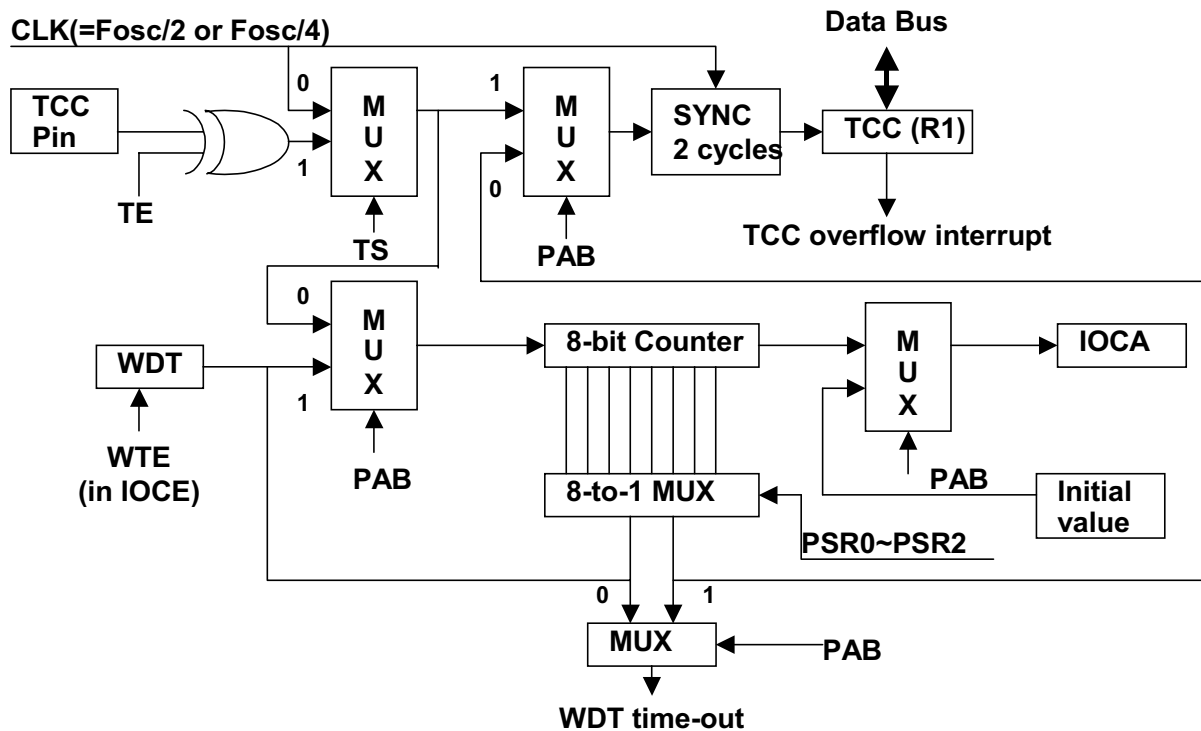

Fig. 5 Block Diagram of TCC and WDT
An 8-bit counter available as prescaler for the TCC or WDT. The prescaler is available for either the TCC or WDT only at any given time, and the PAB bit of the CONT register is used to determine the prescaler assignment. The PSR0~PSR2 bits determine the ratio. The prescaler is cleared each time the instruction is written to TCC under TCC mode. The WDT and prescaler, when assigned to WDT mode, are cleared by the "WDTC" or "SLEP" instructions. Fig. 5 depicts the circuit diagram of TCC/WDT.
- R1 (TCC) is an 8-bit timer/counter. The clock source of TCC can be internal or external clock input (edge selectable from TCC pin). If TCC signal source is from internal clock, TCC will increase by 1 at every instruction cycle (without prescaler). Referring to Fig. 5, CLK=Fosc/2 or CLK=Fosc/4 application is determined by the CODE Option bit CLK status. CLK=Fosc/2 is used if CLK bit is "0", and CLK=Fosc/4 is used if CLK bit is "1". If TCC signal source comes from external clock input, TCC is increased by 1 at every falling edge or rising edge of TCC pin.